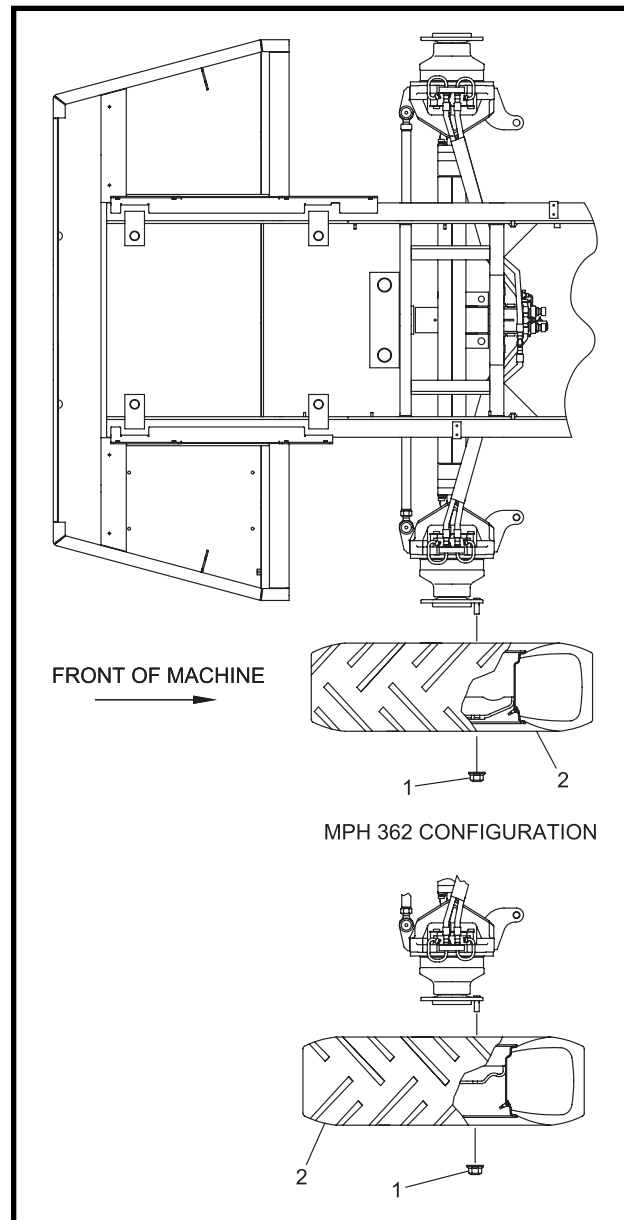

FIGURE 10-9. FRONT WHEEL.
REMOVAL [See Figure 10-9].
INSTALLATION [See Figure 10-9].
NOTE: Be sure tires are mounted on the rim with proper tread orientation as shown in Figure 10-9. The orientation for Model MPH 364-2 is the reverse of Model MPH 362.
When installing front wheels, make sure the tire treads are oriented as shown in Figure 10-9. The front wheels are driven on the MPH 364-2 and are not driven on the model MPH 362. The tire tread on the 362 is the reverse of the tire tread on the 364-2.
1. Slide the front wheel (2) onto the axle with the tire oriented as shown in Figure 10-9.
2. Secure the wheel with ten nuts (1), with flat side of nut toward the rim.